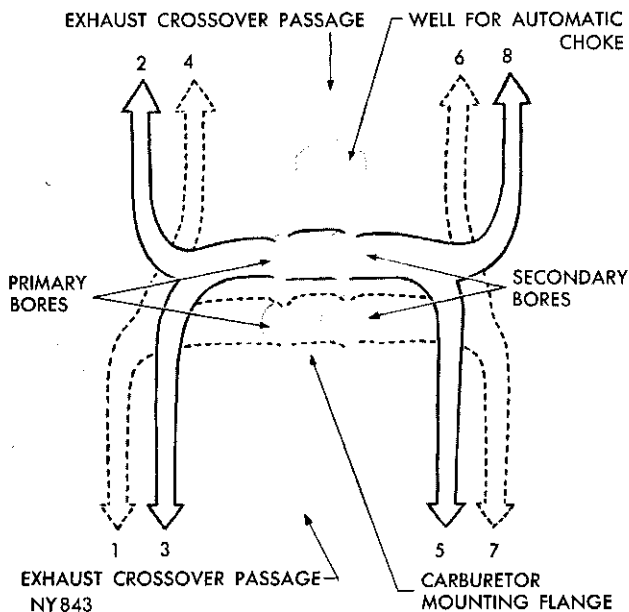

Fig. 5—Intake Manifold
- (1) Clean the manifold in solvent. Blow dry with compressed air.
- (2) Inspect the exhaust crossover passage and pressure test for leakage into any of the intake passages (Fig. 5).
- (3) Inspect the mating surfaces for parallelism.
- (4) Use new gaskets when installing the manifold.